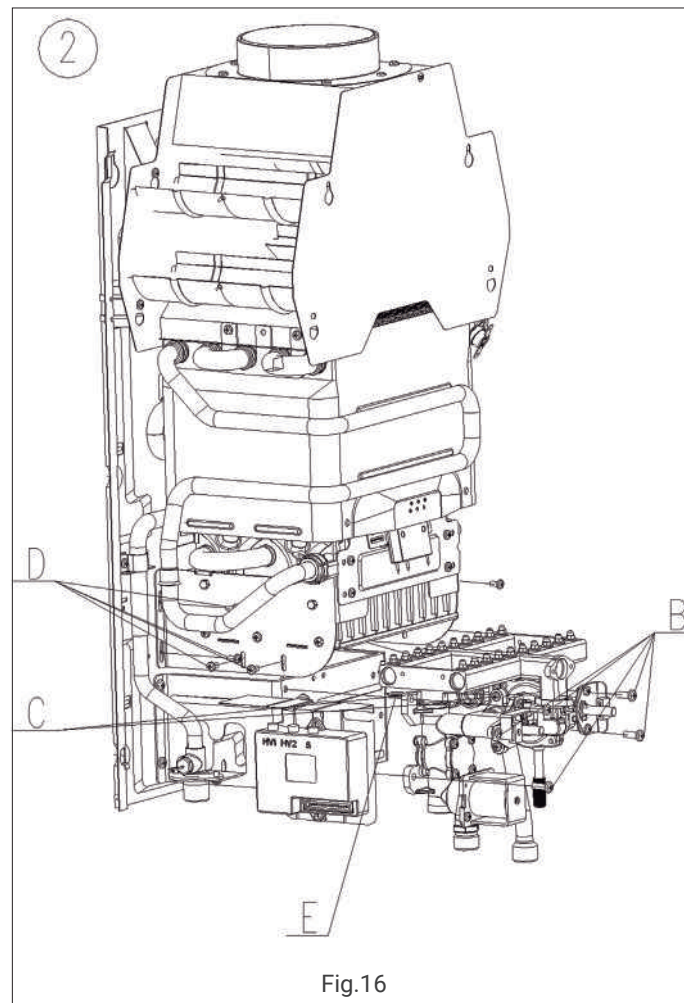

Fig.16
2. Unscrew the connection between water-gas valve and its support, remove the clip which fixes the connection of water valve and water inlet pipe of burner. Remove cable connection for water-gas valve and earthing (fig.16, setp B).
3. Unscrew the connection between water-gas valve and the gas manifold.(fig.16,step C).
4. Unscrew the connection between gas manifold and both side brackets in the burner. Loosen the rest screws for both sides brackets to completely release the manifold(fig.16,steWWWp D), then take out the manifold.
Operate the replacement slowly and make sure not to damage any of the sealing gaskets and put them in the right positions. It's recommended to have them replaced with new one (fig.16, setp E).